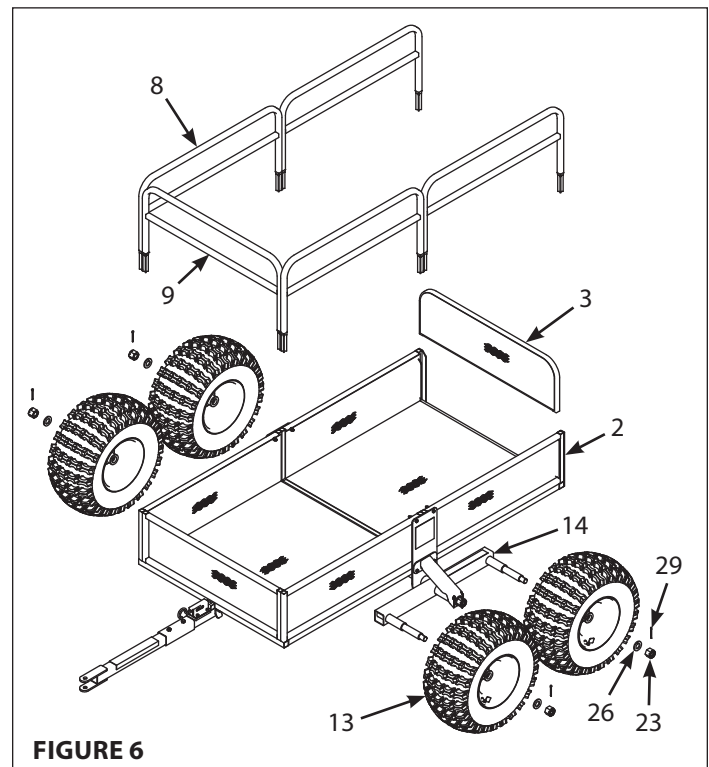

FIGURE 6
13. Slide the four wheels (13) onto the tracking beam axles (14) with grease fittings and air valves facing outward. Secure with four 20mm castle nuts (23) and 20mm steel washers (26). Tighten the castle nut until snug and then back off slightly to allow free movement of the wheels (13) and cotter pin (29) alignment. **SEE FIGURE 6**
14. Insert the four cotter pins (29) through the tracking beam axles (14) and castle nuts (23) so that the head of each cotter pin is seated in the corresponding castle nut. Using a pair of pliers, bend the prongs of the two cotter pins around the other side of the castle nuts so that the cotter pin cannot fall out. **SEE FIGURE 6**
16. Slide the removable tailgate (3) into the channels on the rear trailer frame (2). Slide the four side containment racks (8) and the one front containment rack (9) into the corresponding tubes on the trailer frame assembly. **SEE FIGURE 6**